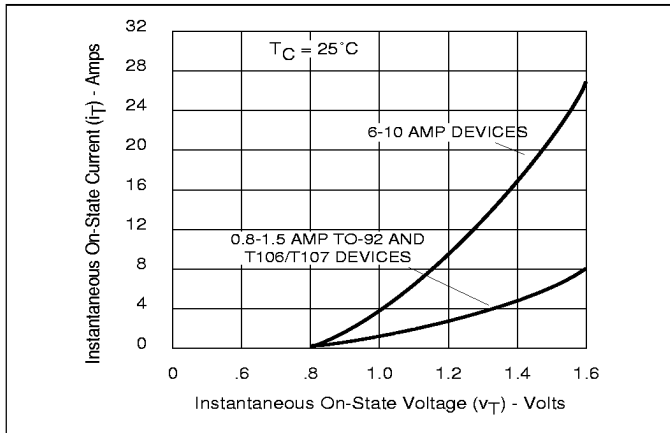

Figure 5.11 Instantaneous On-State Current vs On-State Voltage (Typical)
- (3) See Figure 5.11 for instantaneous on-state current ( $i_T$ ) vs on-state voltage ( $v_T$ ) - (typical).